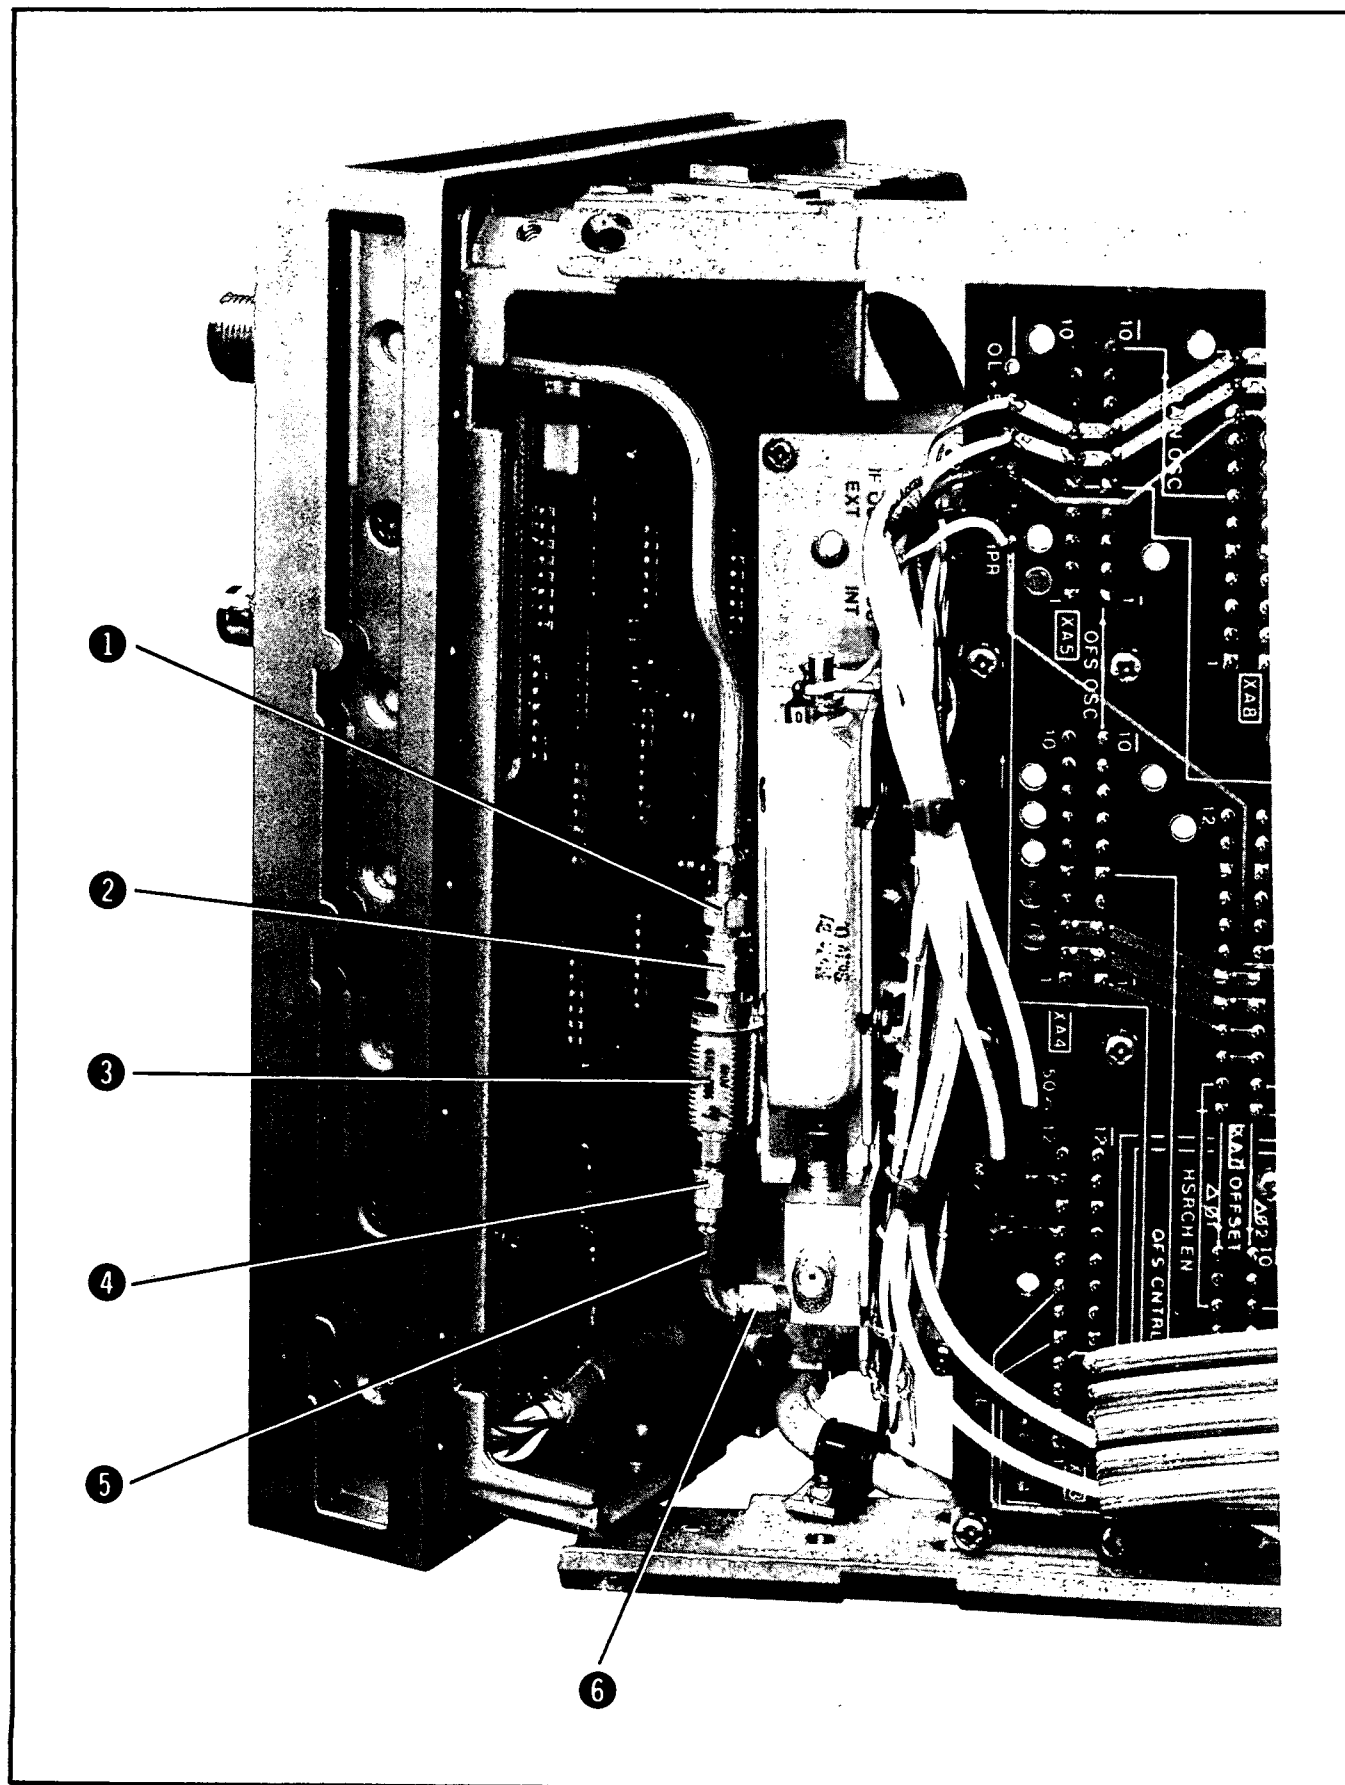

Figure 1-1. Location of the Option 006 Microwave Limiter Installed in the 5342A
When removing or installing the limiter, refer to *Figure 1-1*.
- a. Unscrew the SMA connector at point ⑥ in *Figure 1-1*. Use a 5/16-inch wrench.
1-12. Use the following steps to install the limiter in the 5342A. The following instructions refer to *Figure 1-1*.